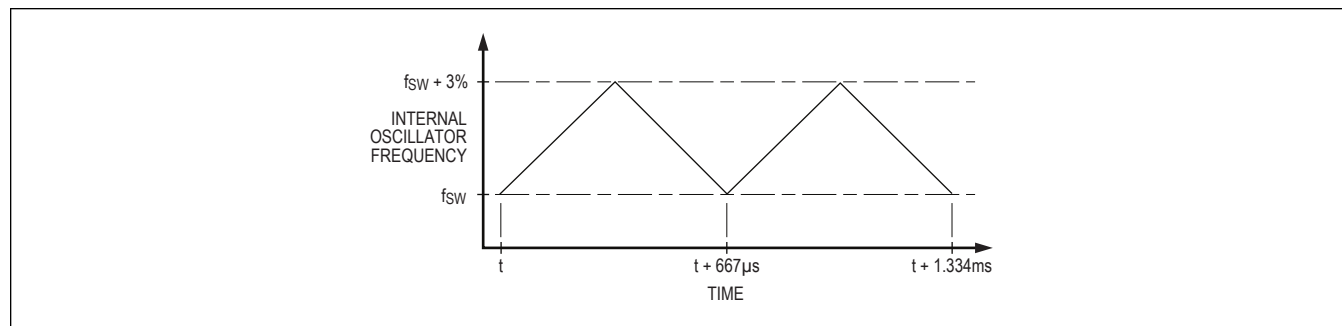

Figure 3. Effect of Spread-Spectrum on Internal Oscillator
The PMICs feature a linear spread-spectrum (SS) operation, which varies the internal operating frequency between f_{SW} and $(f_{SW} + 3\%)$. The internal oscillator is frequency modulated at a rate of 1.5kHz with a frequency deviation of 3% (see Figure 3). This function does not apply to an oscillation frequency applied externally through the SYNC pin. Spread spectrum is a factory-selectable option. See the Ordering Information for available options.